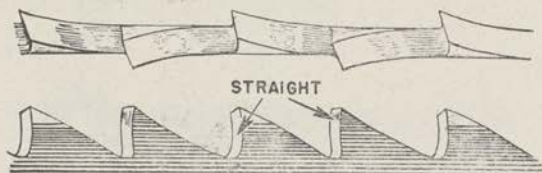

FIGURE 29.—Rip teeth (enlarged view).
(2) Saw teeth are "set" to prevent the saw from binding and the teeth from choking up with sawdust. The set of a saw is the edge like a little chisel (fig. 29). The face of each crosscut tooth is